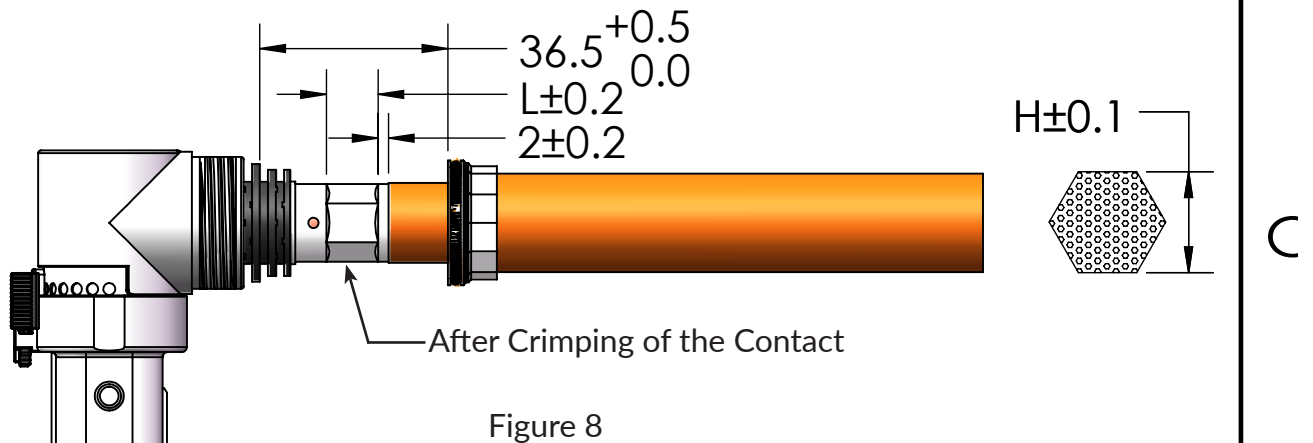

Figure 8
7) As figure 8 shown, move the cable conductor 100% duck into the crimping cup, then crimping the contact use the specified tooling, after crimping, see the figure 8 for the dimensions, see the table 5 for the crimping high “H”: